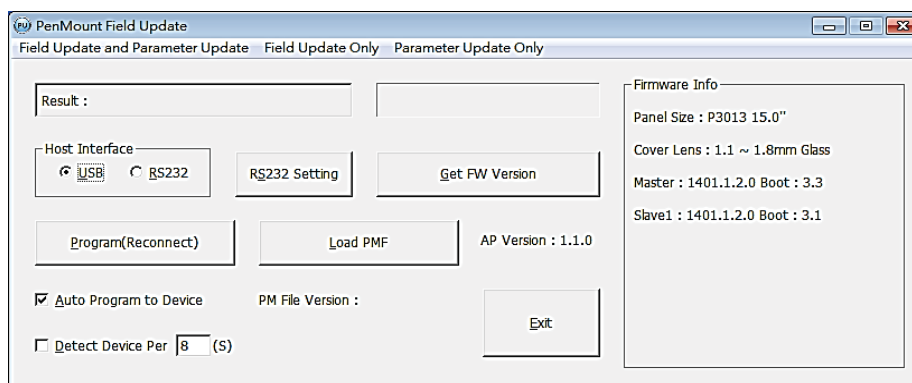

Fig.44
- Field Update Only: User can modify firmware settings. (Fig.44)